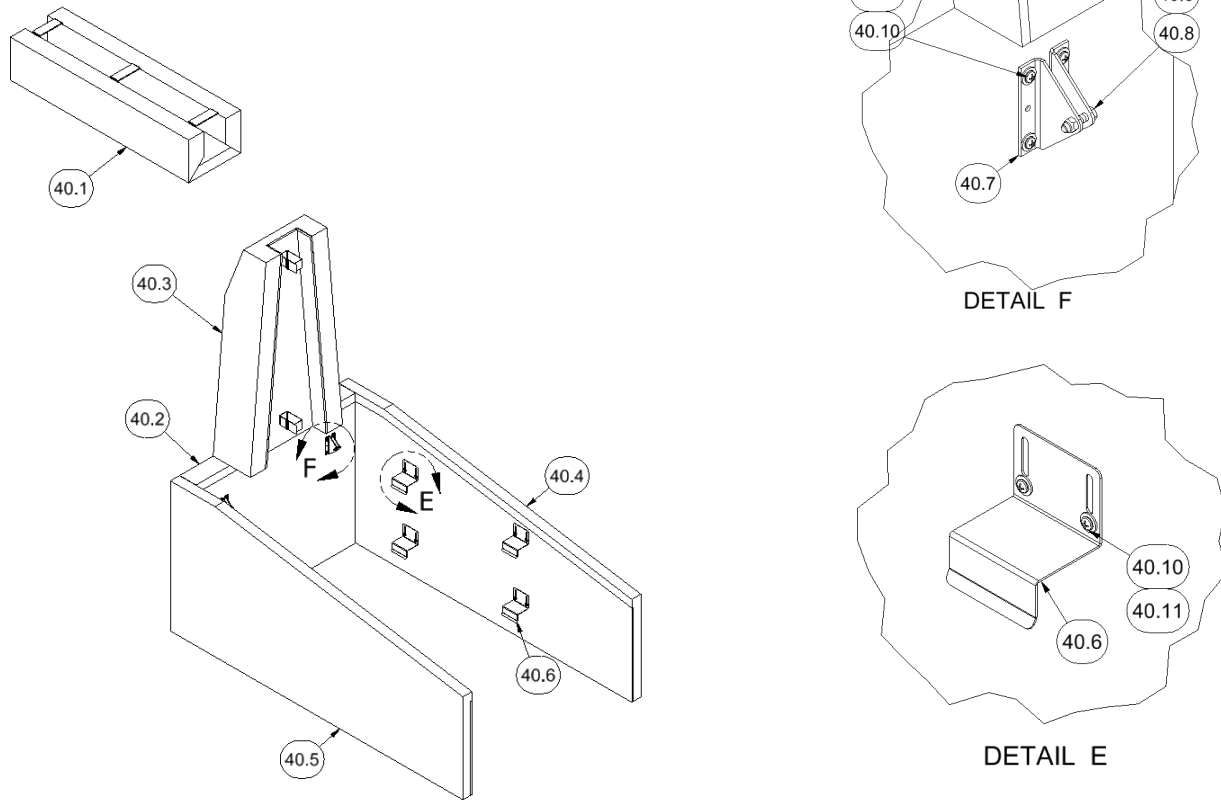

Figure 23
1. Install (2) Pad Hinge Brackets, item 40.7, to each side of the Front Lower Pad, item 40.2, using 1/4-20 Machine Screw and Flat Washer as shown in figure 23, detail F. The 1/4" Screws will engage the threaded holes in the back of the Pad. Adjust Screw in slot to be centered before tightening. Additional adjustment may be required to match the height of Side Pads in step 4.
2. Install the (4) Pad Clips, item 40.6, to the Side Pads, item 40.4 and 40.5 as shown in figure 23. detail E. The 1/4" Screws will engage the threaded holes in the back of the Pad.